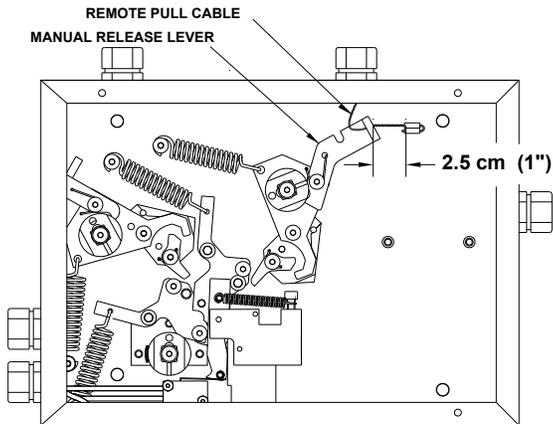

Figure 4-50.
3. Install a cable crimp and loop the cable back through the crimp so that **NO** loop is exposed. There should be approximately 1" (2.5 cm) of cable left between the crimp and the Manual Release Lever. See **Figure 4-50**